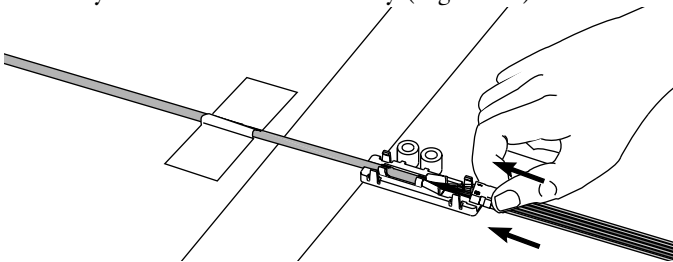

Figure 26
**9.7** Untape the 900  $\mu\text{m}$  assembly from the table edge. Carefully slide the assembly while gently pulling the bare fibers protruding from the 900  $\mu\text{m}$  tube ends until the assembly is above the fan-out body (Figure 26).